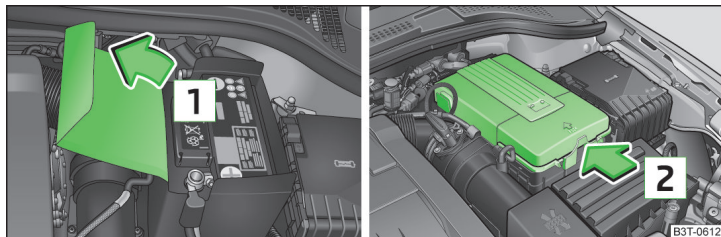

Fig. 166 Engine compartment: Polyester cover of the vehicle battery/
The battery is located in the engine compartment in a polyester cover  » Fig. 166, in a plastic cover  » Fig. 166 or in the left side of the boot » page 99.
When working on the battery, the edge of the polyester battery cover  » Fig. 166 is inserted between the battery and the side wall of the battery cover.
- Open the battery cover in the direction of the arrow  or press the interlock on the side of the battery cover in the direction of the arrow  » Fig. 166, fold the cover up and remove.